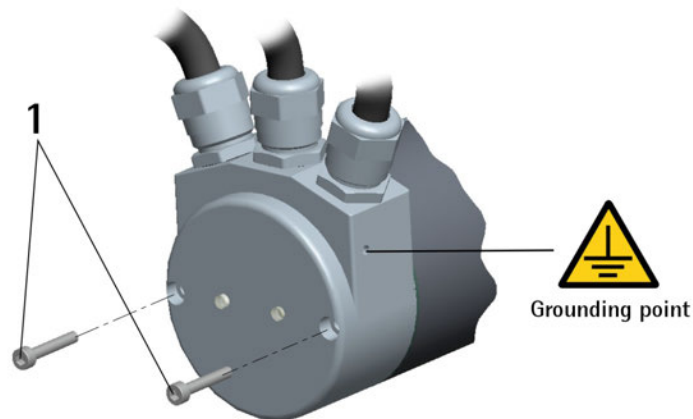
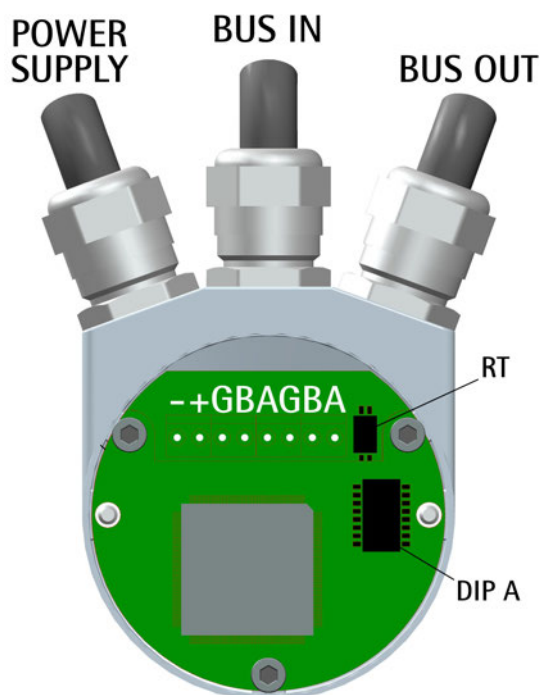

Figure 2
Figure 3
### 4.1 Encoder connection cap (Figure 1 and Figure 2)
To remove the connection cap loosen the two screws **1** (Figure 2). Please be careful with the internal connector.
#### 4.2 Profibus encoder with PGs: PG version (Figure 2 and Figure 3)
#### 4.3 Profibus encoder with M12 connectors: M12 version (Figure 2 and Figure 4)
**4.4 Ground connection (Figure 2)**
Minimize noise by connecting the shield and/or the connector housing and/or the enclosure to ground. Make sure that ground is not affected by noise. The connection point to ground can be situated both on the device side and on user's side. The best solution to minimize the interference must be carried out by the user. You are advised to provide the ground connection as close as possible to the unit. We suggest using the ground point provided in the connection cap (see Figure 2, use one TCEI M3 x 6 cylindrical head screw with two tooth lock washers).
#### 4.6 Node Address: DIP A (Figure 3 and Figure 4)
After having set the device address, please check the position of the bus termination DIP switch (see the "4.8 RT Bus termination resistor (Figure 3 and Figure 4)" section on page 31).
#### 4.8 RT Bus termination resistor (Figure 3 and Figure 4)